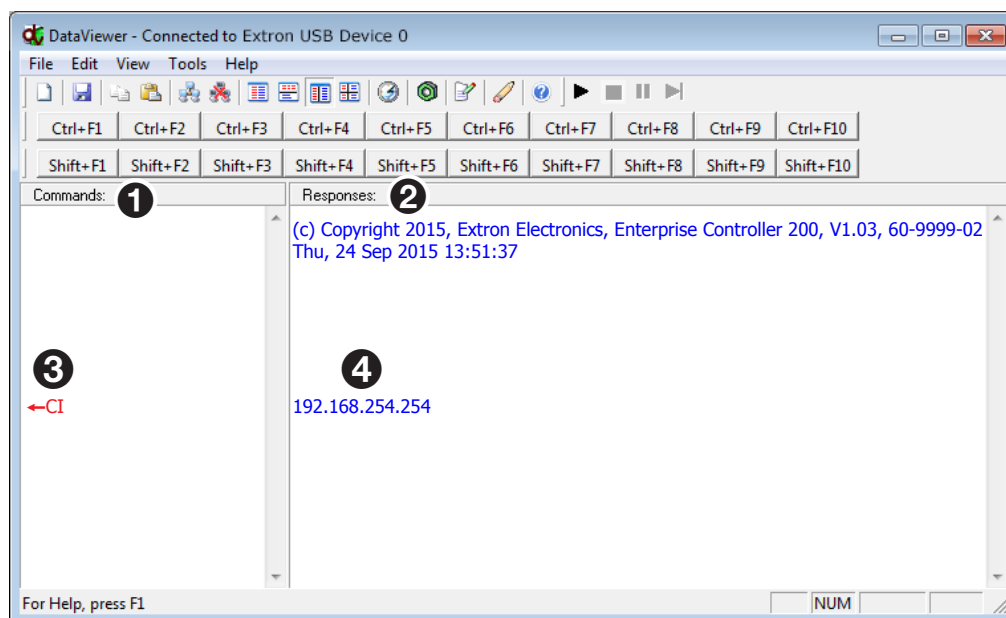

Figure 189. Enter Commands and View Responses
4. The main **DataViewer** dialog opens and the EC 200 responds with a copyright statement containing the model number, part number, and current firmware version of the connected EC 200, along with the date (see figure 189, ②).